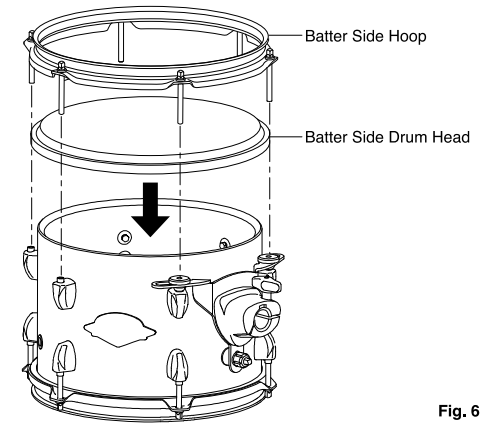

Fig. 6
6. Attach the Batter Side Drum Head and Hoop to the drum in the order shown (Fig. 6).